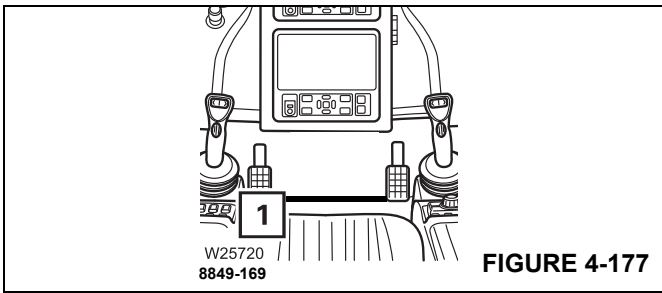

FIGURE 4-177
- Depress the brake pedal (1), (Figure 4-177). Do not brake to such a degree that the load starts swinging.